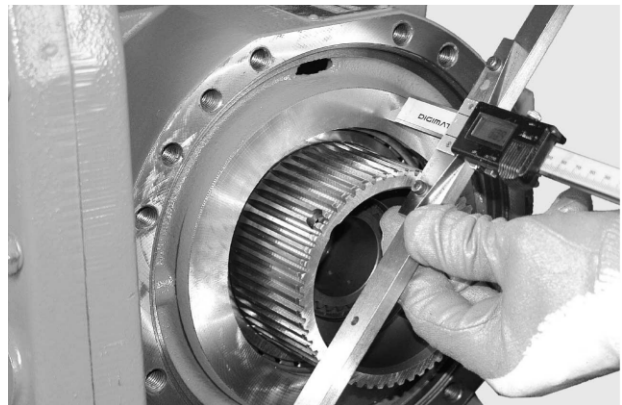

Fig 27.
- 8 Move the depth gauge onto the brake pack contact face on the differential carrier housing. Record the value "A". ⇒ Fig 27. \(□ G-12\).